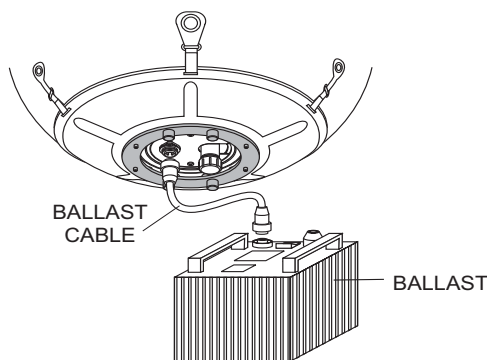

Figure 30. Connecting the Ballast Cable
1. Insert the female end of the ballast cable (Figure 30) into the connector on the lamp fixture. Insert the male end of the ballast cable into the female connector on the ballast.